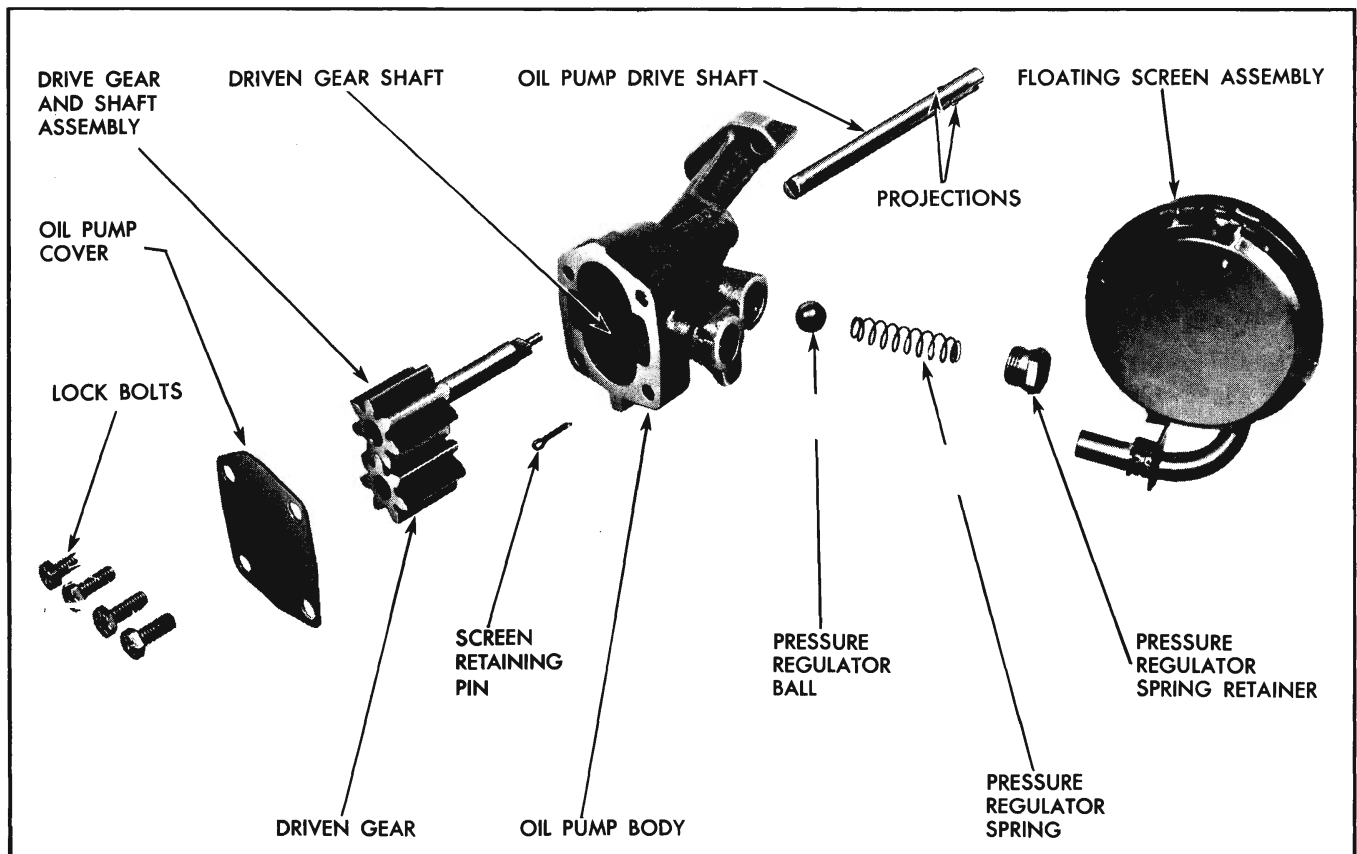

Fig. 6A-12 Oil Pump for 4 Cylinder Engine
2. Inspect pressure regulator spring (Fig. 6A-12) for distortion, cracks, and wear on sides.